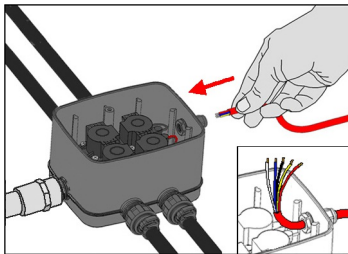

Fig 3
3. Loosen the hexagonal sealing nut on the outside of the cable gland (e) and push the controller cable through the gland, allowing enough cable inside for connection to the solenoid leads. Ensure outer sheathing of the cable penetrates through the cable gland. Strip 75 mm of the outer sheath from the controller cable ensuring you do not damage the inner cores. Next, strip 15 mm of insulation from the end of each inner wire and align any frayed strands (Fig 3).